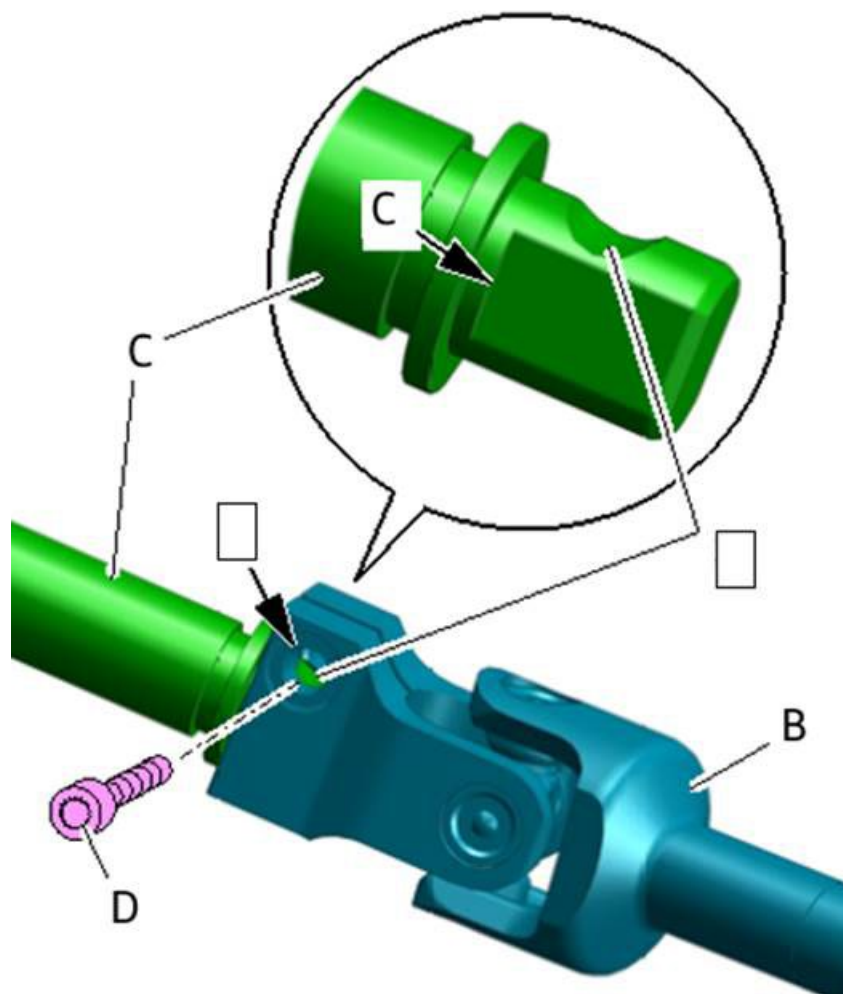

Figure 3. Steering column shaft and intermediate shaft connection.
Reinstall the steering intermediate shaft (B) to the steering column (C) and tighten with new bolts (D) (Figure 3).